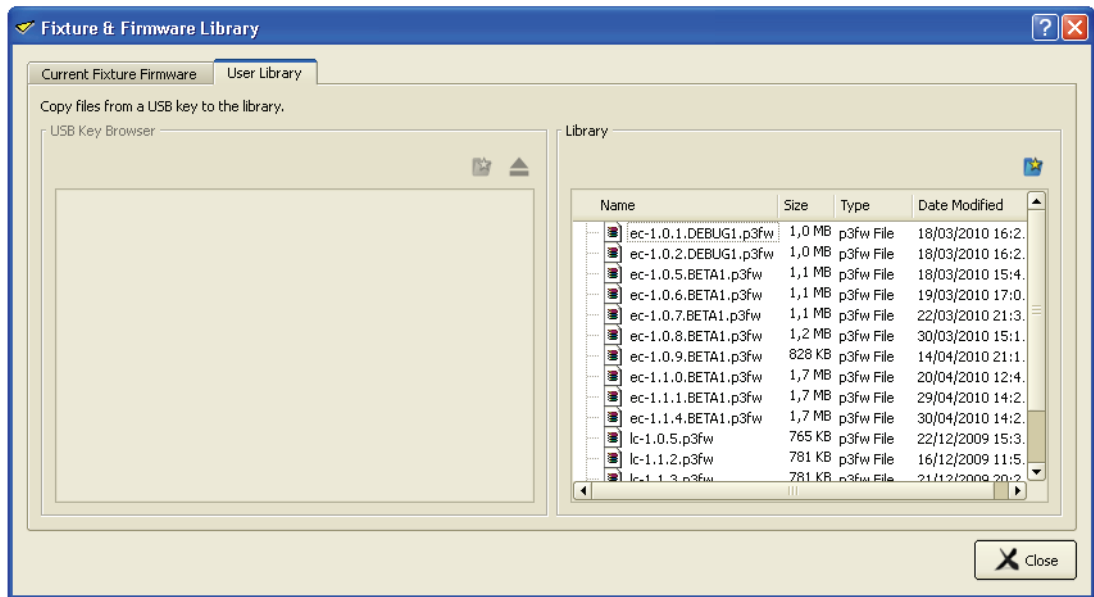

Figure 48: User Library tab
- See Figure 48. Click on the **User Library** tab of this window. To update the user library, drag files from the **USB Key Browser** pane on the left to the **Library** pane on the right. This will store them in the P3-100's internal memory.